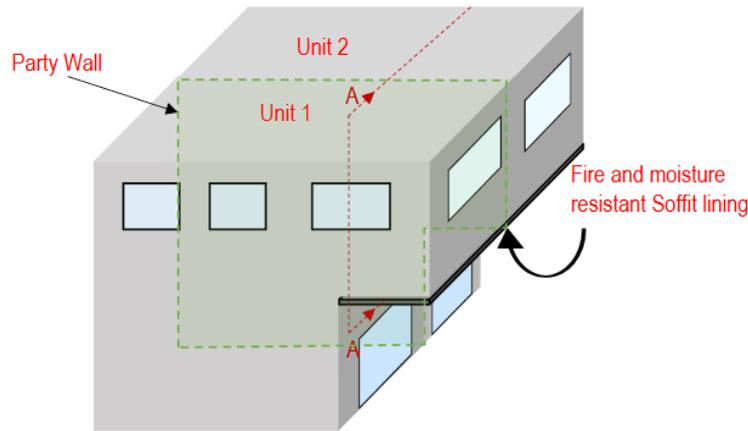

Figure 1–Diagram representing a typical overhang scenario and the proposed fire and moisture resistant soffit lining.
- Where the soffit of the upper floor overhang may be exposed to fire from an adjoining building or buildings, it must be lined with a fire and moisture resistant board tested to achieve a resistance to incipient spread of fire (RISF) of at least 60min (refer to Figure 1);